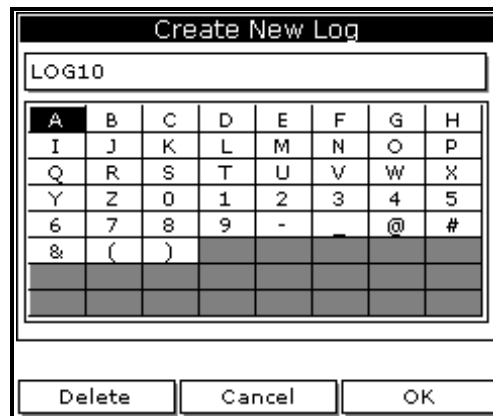

Figure 42: Name Entry Window for a New Log
4. Use the arrow key to scroll to Clone Selected Log and press **[ENTER]**. The screen now appears similar to Figure 42 on page 52.